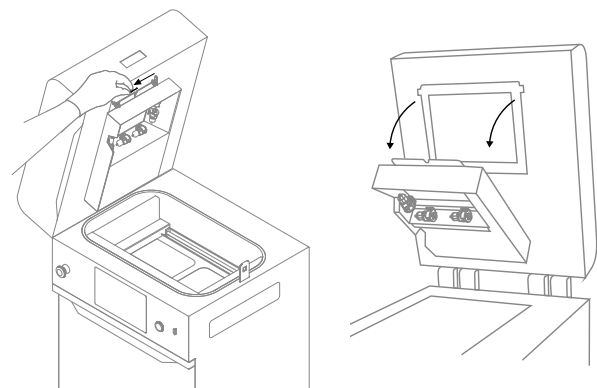

Fig. 12.48 Lower the heating module to access the reflector sealing.
8. Remove the split pin from the heating module (fig. 12.48).
9. Lower the heating module (fig. 12.48).